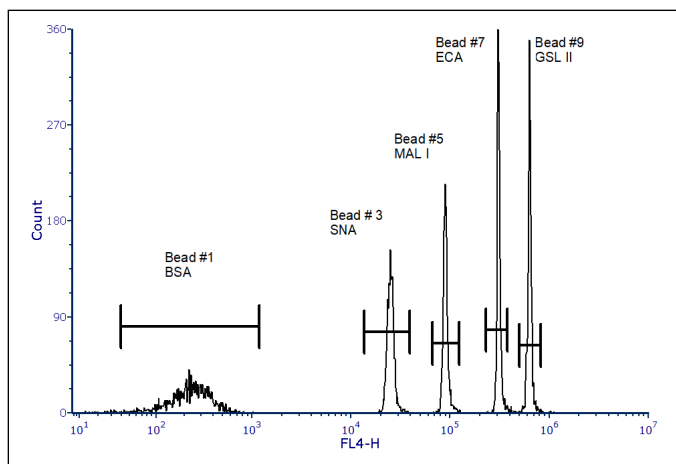

Fig. 2. Histogram of bead gated microspheres, with each bead Peak # gated separately.
2. FL4 (APC) histogram gating on scatter gated GlycoSense™ beads collected on a BD Accuri C6 flow cytometer. The Bead # corresponds to the Peak # in the histogram. Each peak has been gated separately in Figure 2 using FCS Express 6. Depending on the cytometer type, PMT or voltage values may need to be adjusted in order to fit all peaks on the histogram plot. Determine these values experimentally based on your cytometer. Alternately, bivariate dot plots of forward or side scatter vs. bead fluorescence on scatter gated beads can be used to gate GlycoSense™ bead populations instead of histograms.
3. Create an FL1 (FITC) green fluorescence channel histogram plot for each gated microsphere peak in the FL4 (APC) histogram plot. This will allow for recording median green fluorescence values for each microsphere peak. The individual gate for each peak in the FL4 histogram plot in Figure 2 will have a separate FL1 histogram plot based on that gate. Depending on the type of cytometer and concentration of sample, PMT or voltage values may need to be adjusted for the green fluorescence channel. After collecting the highest concentration or most fluorescent sample, adjust the PMT or voltage so that the highest value FL1 histogram is within scale of the plot and maximizes the dynamic range of fluorescence. The sample may need to be run again if the PMT or voltages were set too high or too low during the initial setup. Cytometers which have pre-set or non-adjustable PMT and voltage values such as the BD Accuri C6 do not require this adjustment, while cytometers with adjustable values will require some settings optimization. **No compensation is necessary in this assay as there is no overlap between the microsphere fluorescence and protein label fluorescence.**